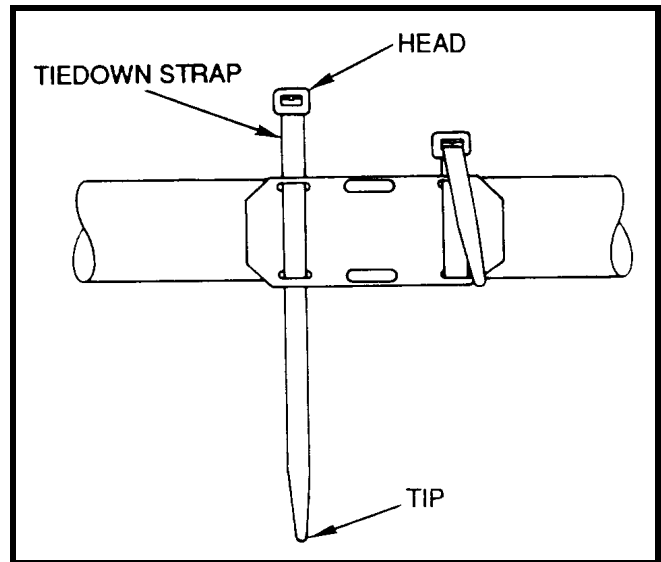

FIGURE 11-29. Tie-down strap installation.
(3) Thread the tie-down straps through holes in marking plate and around cable. Thread tip of tie-down strap through slot in head. (See figure 11-29.) Pull tip until strap is snug around cable.